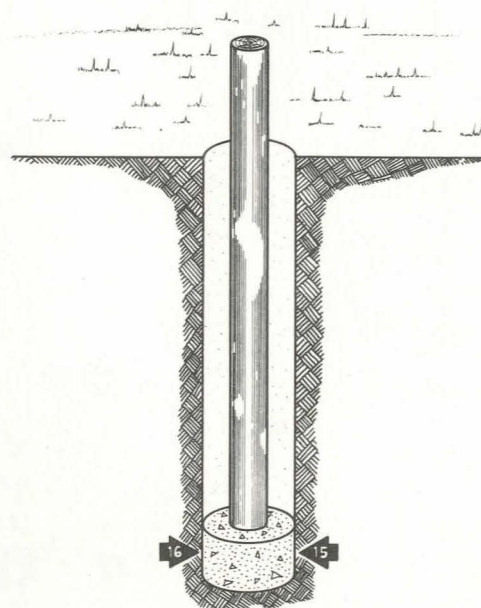

Fig. 5.
15. Drill holes 8 inches deeper than the set of the pole about 5 to 6 feet deep and 18 to 24 inches in diameter (see Fig. 5).